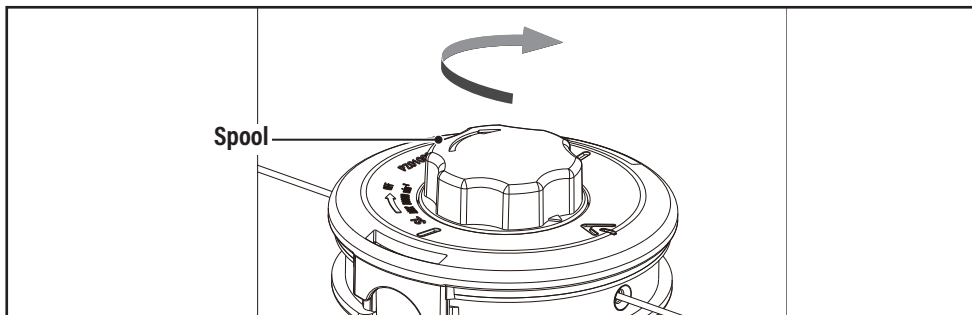

Fig. 17
5. Rotate the spool head in a clockwise direction to wind the cutting line (B10) in the spool (Fig. 17).